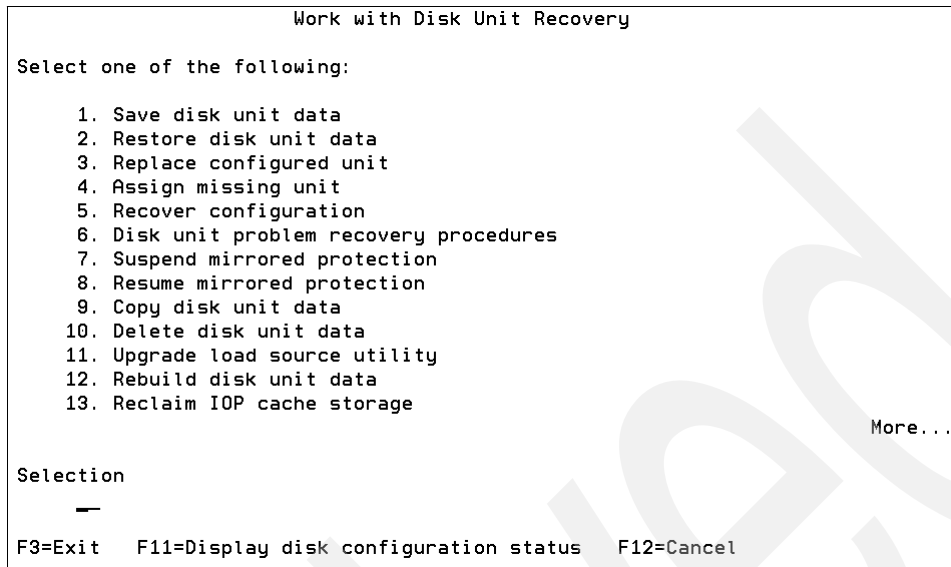

Figure 3-29 The Work with Disk Unit Recovery screen
- e. On the Work with Disk Unit Recovery screen (Figure 3-29), enter 7 (Suspend mirrored protection).